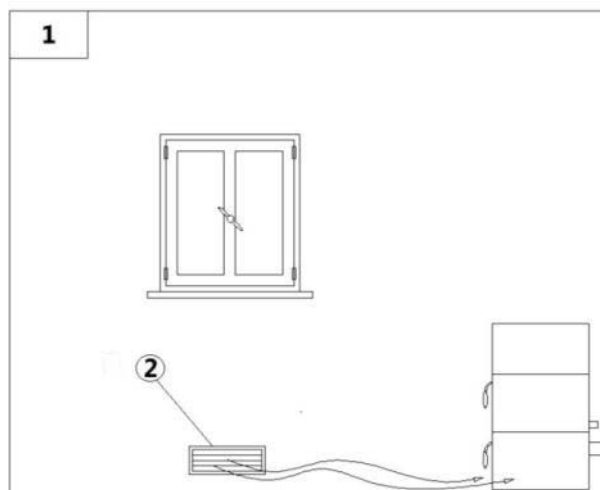

Fig. 10 - Direct air inflow
LEGEND	Fig. 10
- The air inflow from outside to the inner occurs directly, through an opening on the external wall of the room (see **Fig. 10**).